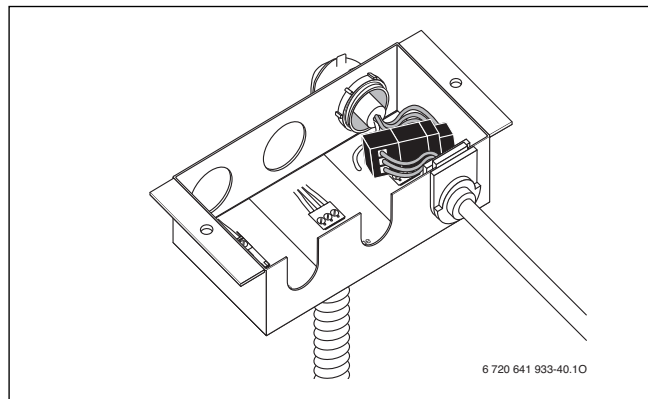

Fig. 52 Cable connected (external pump)
- ▶ Insert cable into the junction box as shown in Fig. 52.